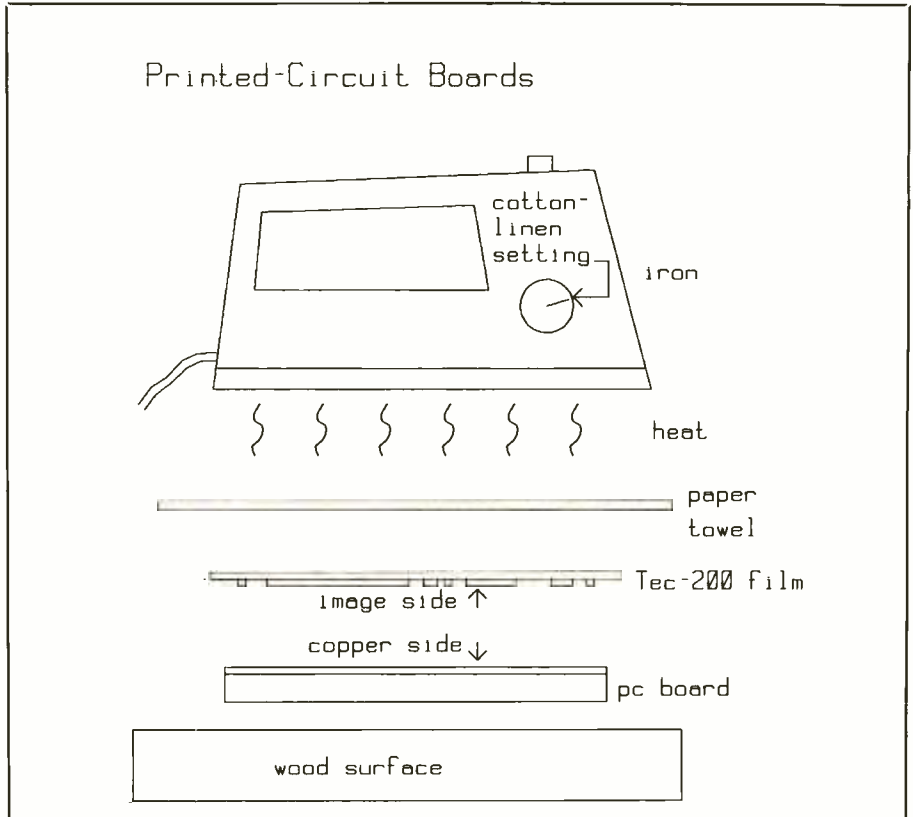

Fig. 2. In direct method of pattern transfer, iron simultaneously heats transfer film and pc blank, causing pattern to transfer from film to blank.
• **Direct-Transfer Method.** Using this method, the pattern is transferred directly with the iron, instead of with the brayer, as illustrated in Fig. 2. This method may work better for large patterns, but it requires much more careful monitoring.